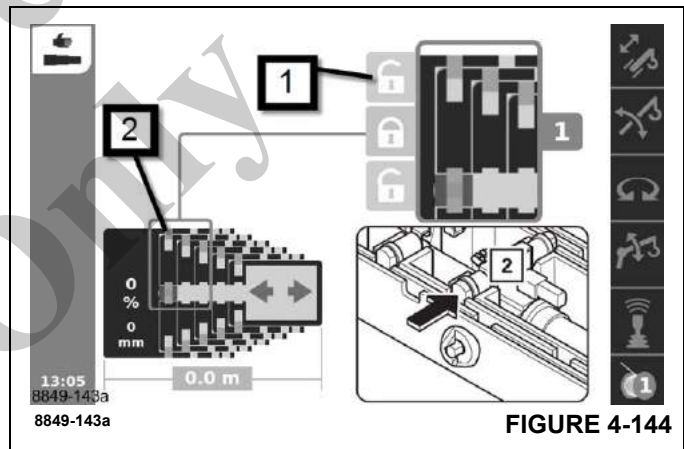

FIGURE 4-144
For Unlocking, refer to (Figure 4-144). Select the symbol (1).